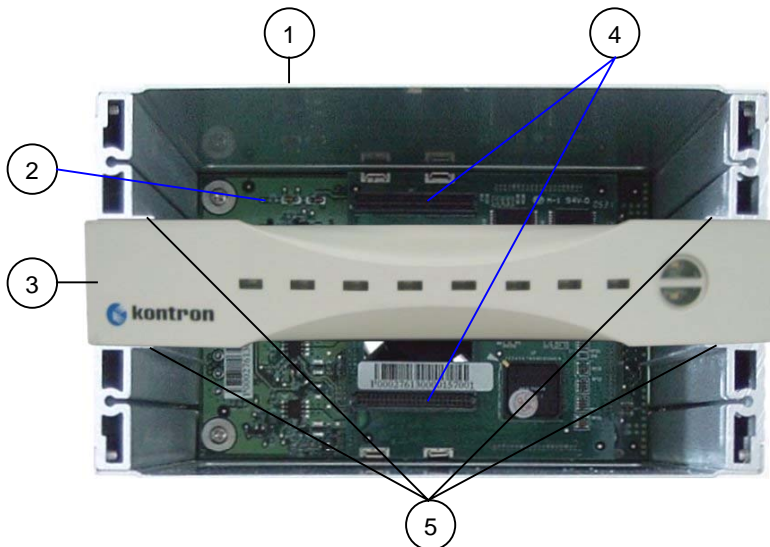

Fig. 10: Detail: Inside of the KISS-Stor 1 (without drive carriers)
2. Insert successively and slide each of the drive carrier into a corresponding bay of the drives cage (refer to *fig. 10, pos.5*).
3. Gently push the drive carrier until it connects to corresponding receptacles on the rear of the drives cage of the KISS-Stor 1 (refer to *fig. 10, pos. 4*).